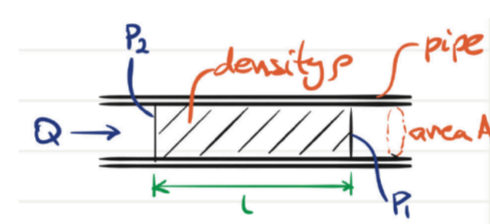

Figure flu.1: a section of pipe for deriving its inductance.
- The inductance  $I$  for a uniform pipe can be derived, as follows, with reference to the sectioned pipe of Fig. flu.1. For an incompressible fluid flowing through a pipe of uniform area  $A$  and length  $L$ , with uniform velocity profile (a convenient fiction), an element of fluid obey's Newton's second law, from which several interesting equalities can be derived: